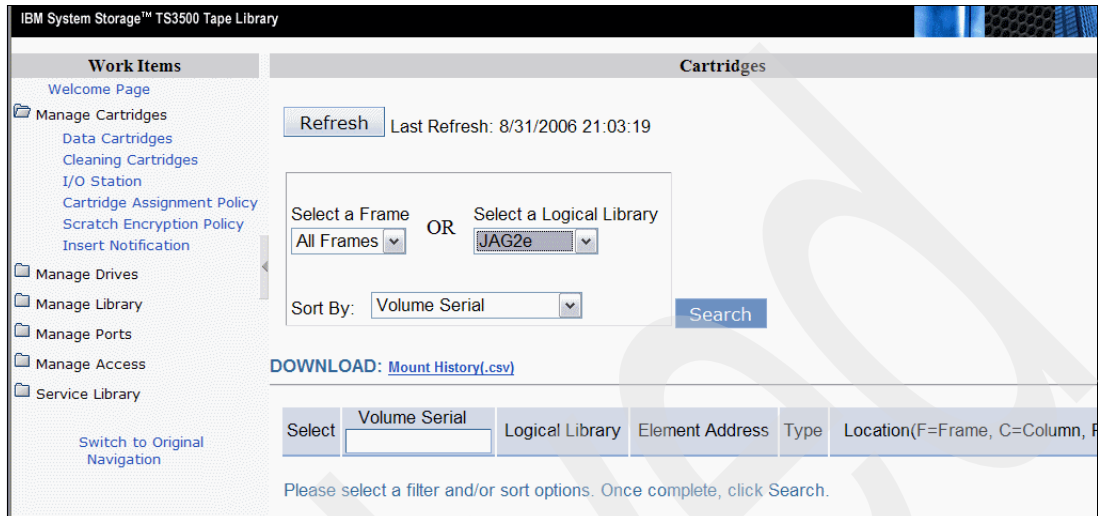

Figure 6-81 Data cartridges
- To check whether your cartridges are being encrypted, select **Manage Cartridges** → **Data Cartridges**. Narrow your search by selecting a frame or a logical library. In this example, we selected only the encryption-enabled logical library (Figure 6-81). Click **Search** to display your selection of cartridges.